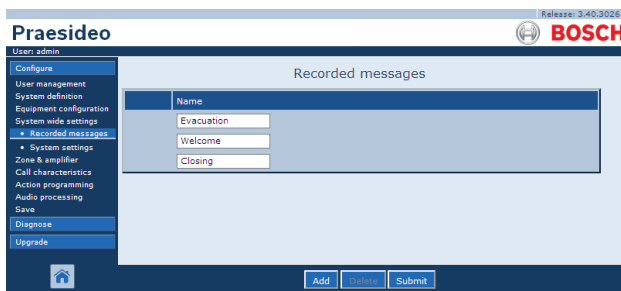

figure 44.2: Register message, step 1
- 1 Go to *Configure > System wide settings > Recorded messages*. A screen similar to the one in figure 44.2 appears in the main frame of the web interface.